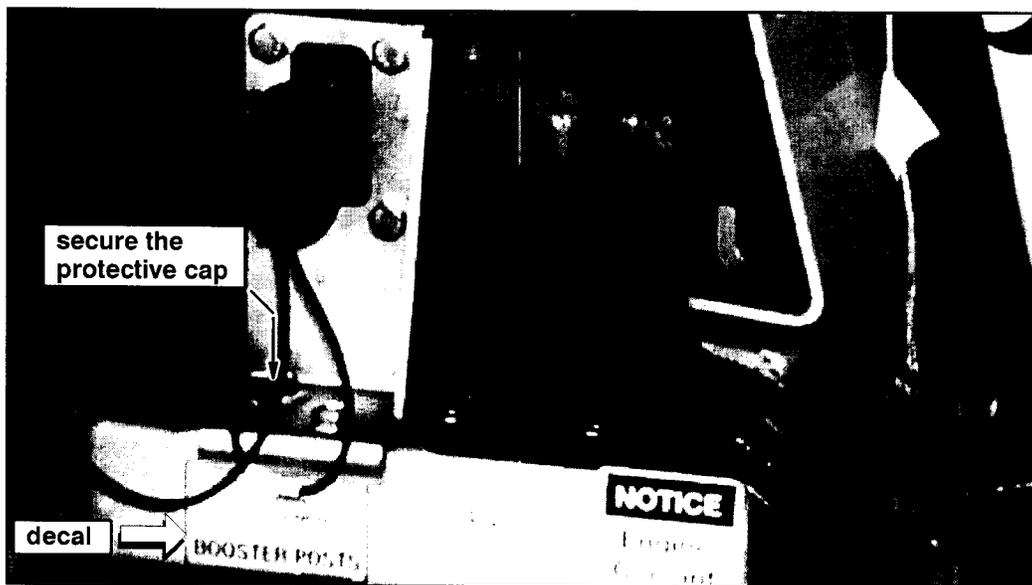

Figure 4. Reference photo.
9. Using a clean cloth and an isopropyl alcohol and water mixture, clean the decal application area shown in Figure 4. Apply the booster posts decal (p/n 07-08-2150).